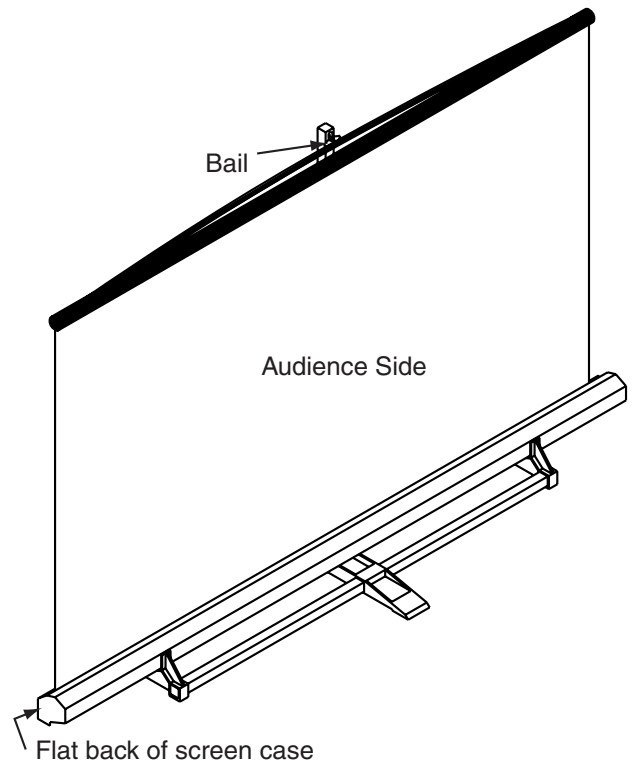

Figure 2
- ① Place screen case into Outrigger Feet of optional floor stand. Place so screen case is centered, and set screws will tighten against flat back of case. Flat back of case will face away from audience (viewing surface will face audience).
- ② Tighten set screws against flat back of case to hold in place.
- ③ To raise screen, pull bail upward in a fluid motion. Hang bail on bail hook to hold in place (see Fig. 2).